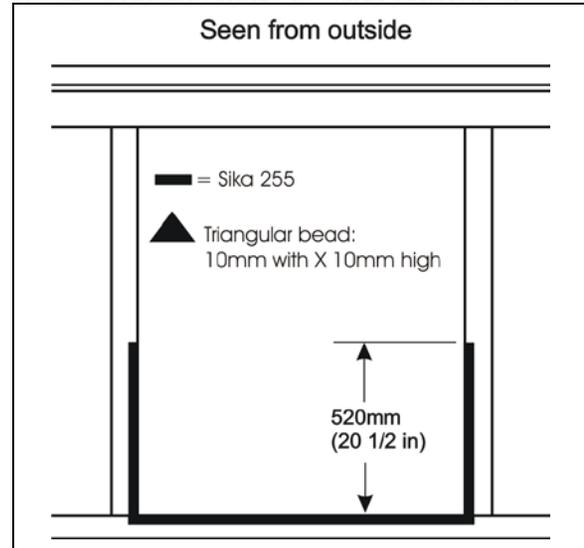

FIGURE 66: AWNING WINDOW – SIKA 255 APPLICATION
- Apply Sika 255 as per FIGURE 66 (triangular bead: 10mm width X 10mm high).